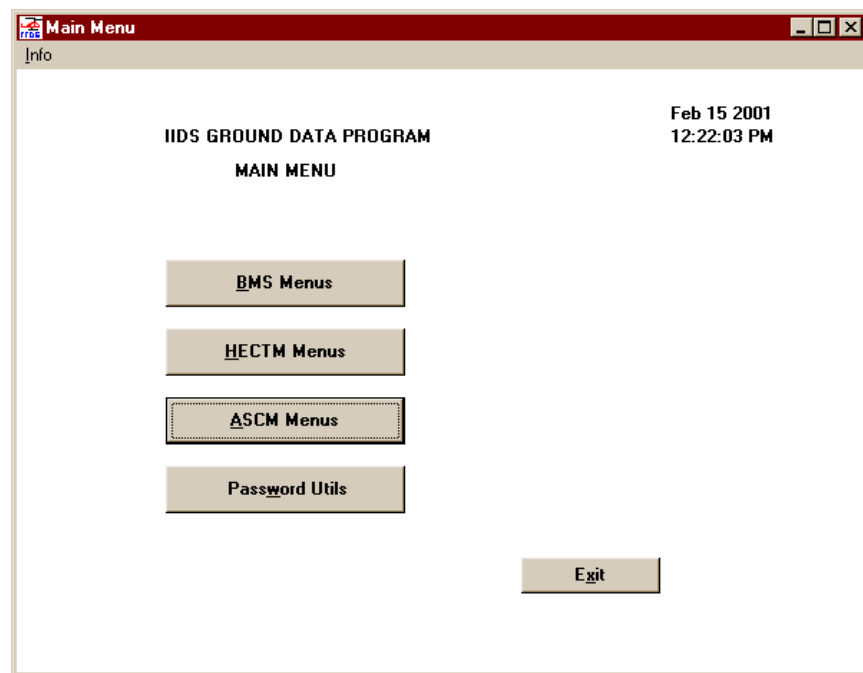

Figure 8. GBMC Main Menu Screen
When logon is successful, the GBMC main menu is visible (refer to Figure 8). From here you can select all the function available in the application. The menu consists of buttons for accessing the:
1. Click on the **"Password Utils"** control button (refer to Figure 8).
1. From the GBMC Main Menu, Click on the "**Password Utils**" control button (refer to Figure 8).
2. Click on the "**ASCM Menus**" control button (refer to Figure 8).